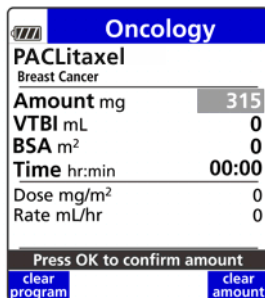

Figure 97. Enter Drug Amount. See important note on page 83.
- Enter drug amount. Press **OK**. See Figure 97.